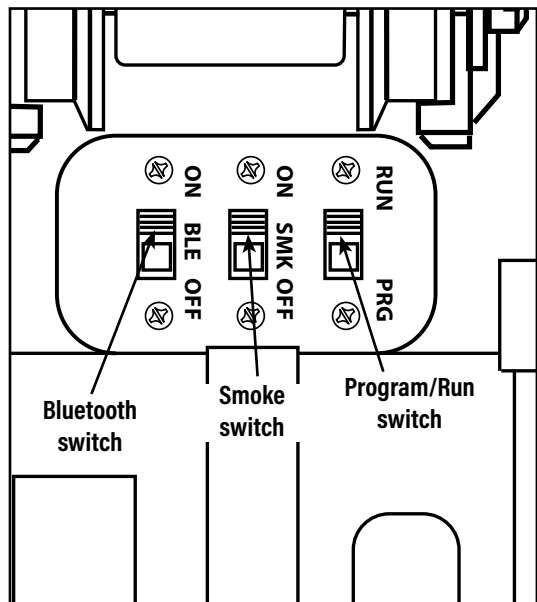

Figure 6. Switch locations
Note! If your locomotive is running in Conventional mode, it can be interrupted by a Bluetooth Control device. If you do not wish for this to happen, locate the Bluetooth ON/OFF switch and move it to the OFF position. Refer to Figure 6 on page 8.
1. Slide the program run switch on your locomotive to the PROG position. See Figure 6 on page 8.